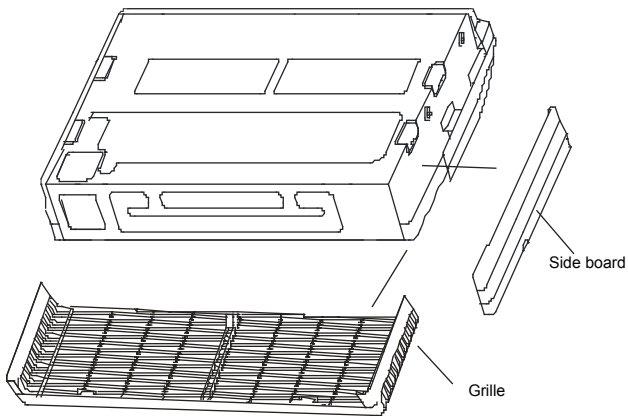

Fig. 4-8
1. Fix the hook with tapping screw onto the wall. (Refer to Fig. 4-8)
- Remove the side board and the grille. (Refer to Fig. 4-8) (For models 112 and 140, do not remove the grille.)